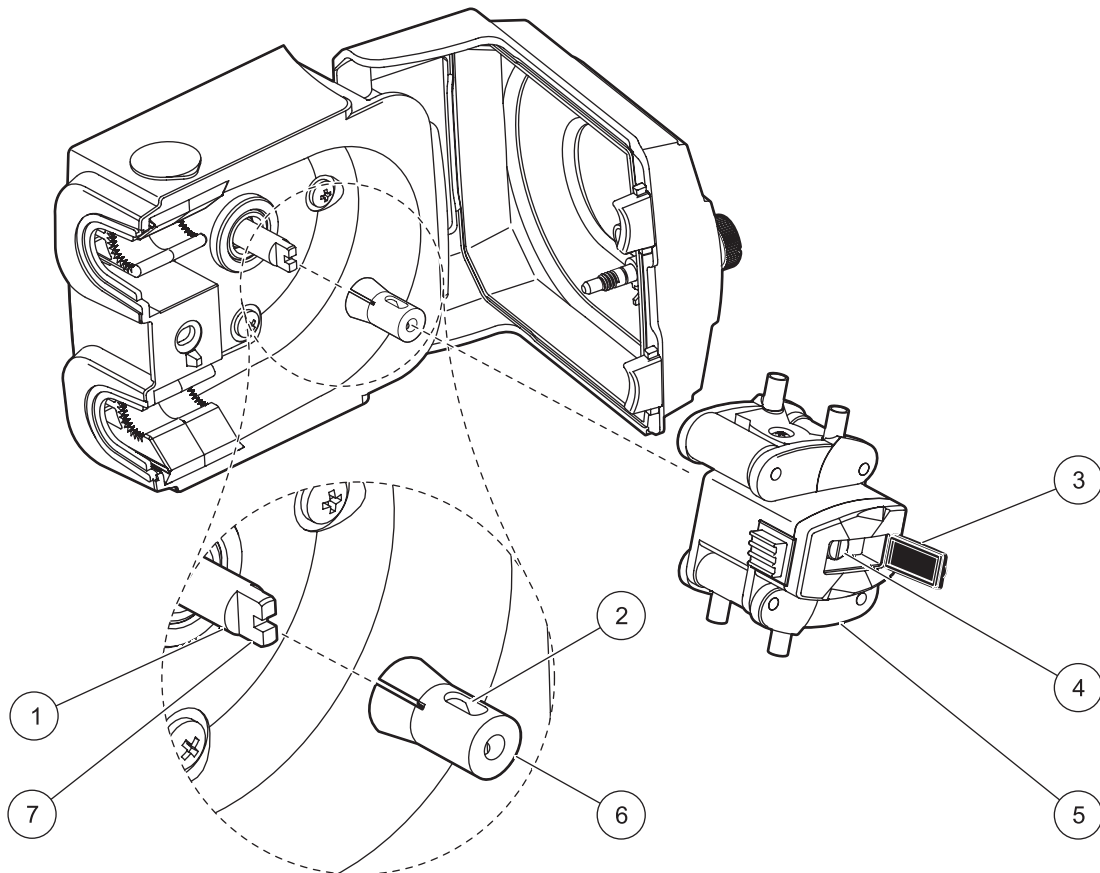

Figure 35 Pump rotor removal
2. Open the rubber flap on the end of the rotor and remove the screw with a flat-blade screwdriver (Figure 35).
3. Remove the rotor. A collet connects the rotor to the pump shaft and can come off when the rotor is removed (Figure 35).
5. If the collect was removed in step 3., align the recess in the collet with the tang on the shaft and push the collet on the shaft (Figure 35).